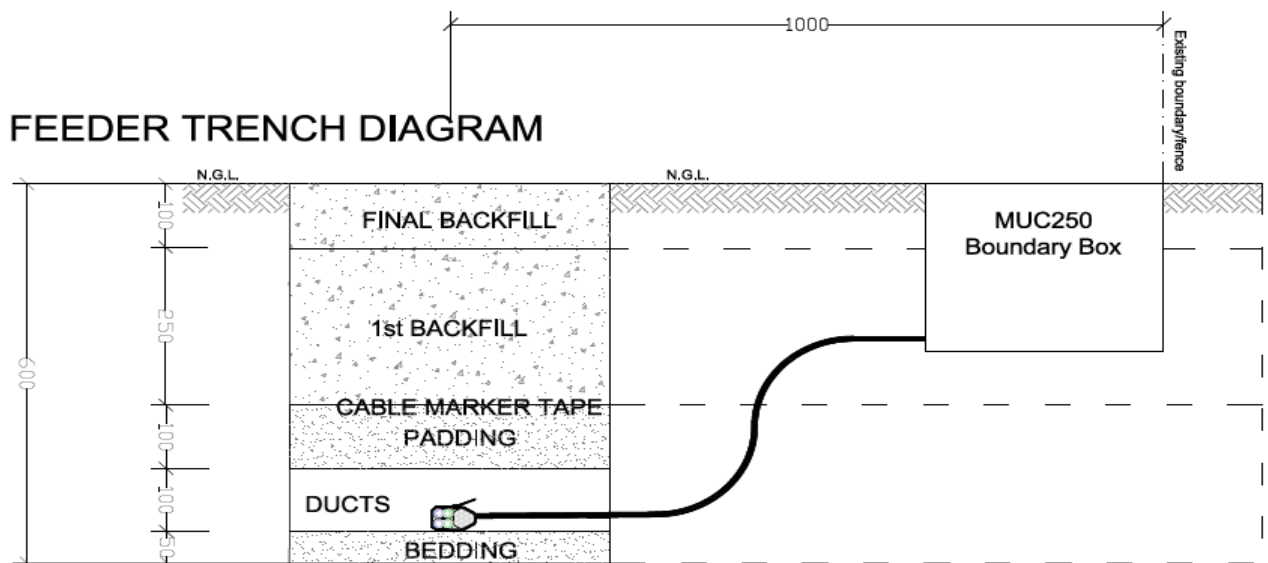

Figure 6.2 – Feeder Trenching Diagram
- i. Refer to *Figure 6.2 – Feeder Trenching Diagram* below as reference.